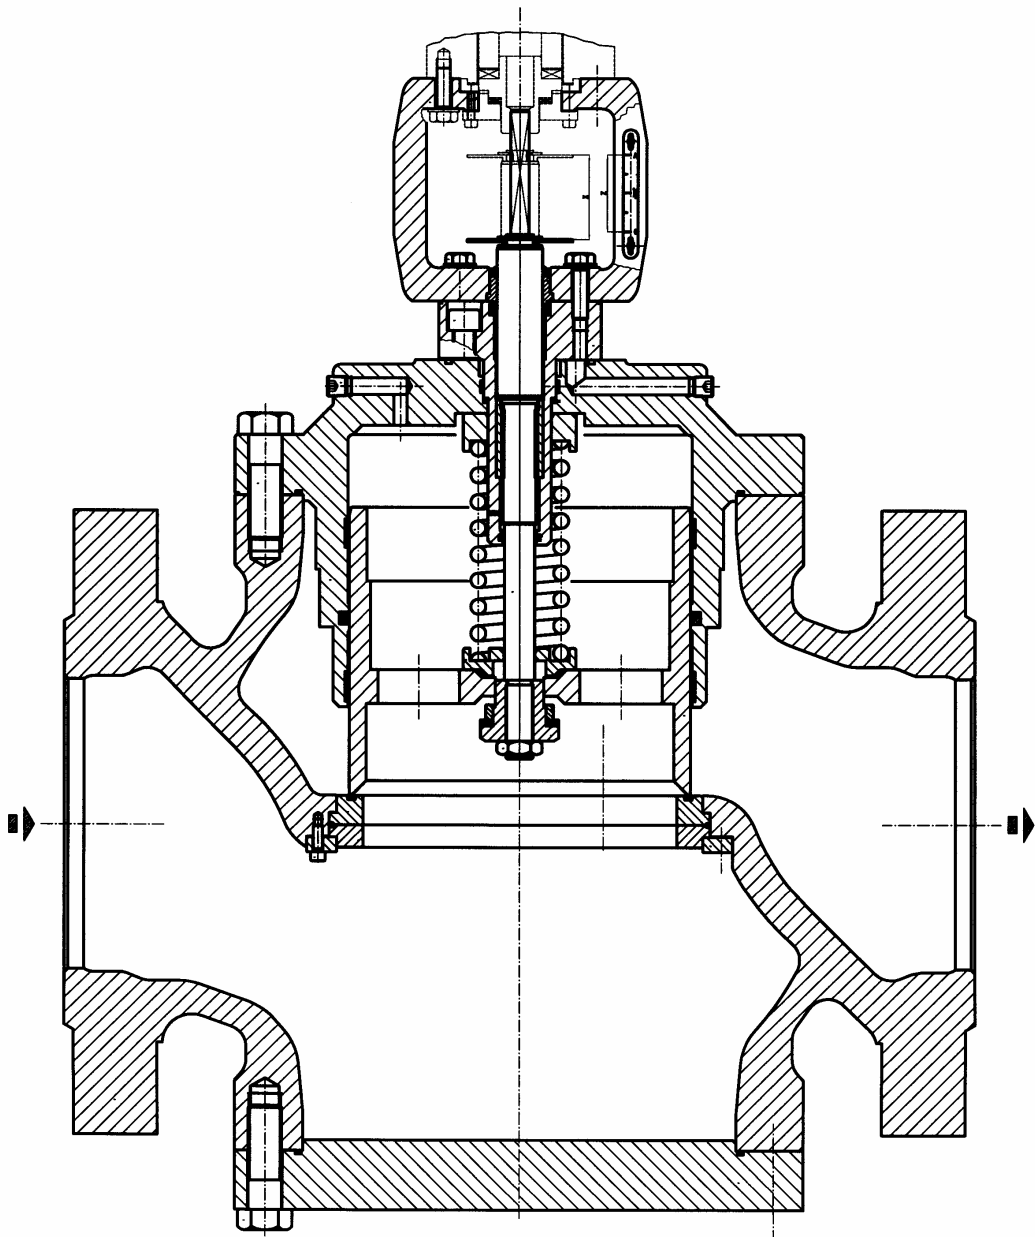

Figure 2
**SINCROFLUX** ( electrical control, see figure 2 ).